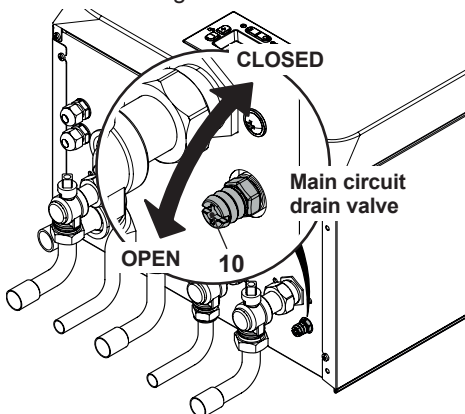

Fig. 10.9
• Loosen the central heating drain cock 10 indicated in Fig. 10.9.